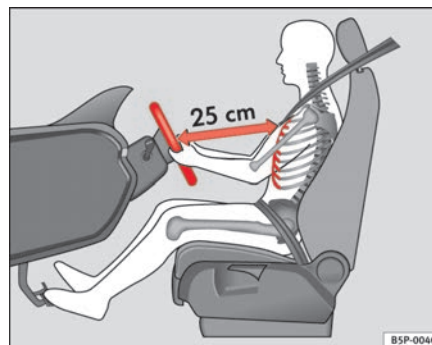

Fig. 94 Proper sitting position for driver
- Adjust the steering wheel in this way until the correct position is set $\Rightarrow$ fig. 94.
- Adjust the driver seat or steering wheel so that there is a distance of at least 25 cm between the steering wheel and your breast bone ⇒ page 127, fig. 94. If you fail to observe the minimum distance, the airbag will not protect you. Risk of fatal injury.